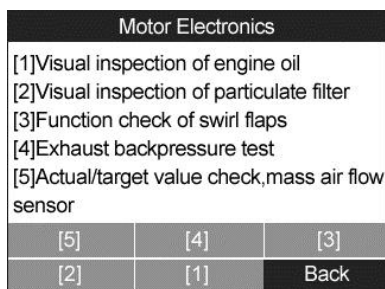

Figure 13-29
- a) From the particle filter test menu (Figure 13-29) use the **LEFT/RIGHT** scroll button to select **[1]** and press the **OK** button.
- a) From the particle filter test menu (Figure 13-29) use the **LEFT/RIGHT** scroll button to select **[2]** and press the **OK** button.
- a) From the particle filter test menu (Figure 13-29) use the **LEFT/RIGHT** scroll button to select **[3]** and press the **OK** button.
- a) From the particle filter test menu (Figure 13-29) use the **LEFT/RIGHT** scroll button to select **[4]** and press the **OK** button.
- a) From the particle filter test menu (Figure 13-29) use the **LEFT/RIGHT** scroll button to select **[5]** and press the **OK** button.